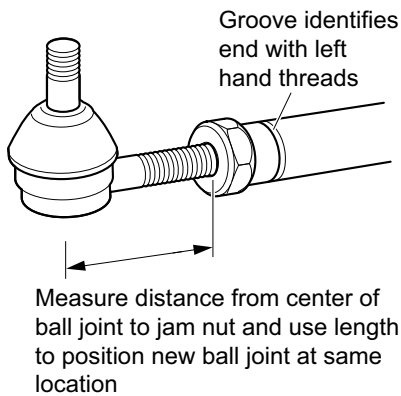

Figure 13 Tie Rod Replacement
- To install the new tie rod ball joint close to its correct position, measure the exposed thread length from the jam nut (Ref. Figure 13).